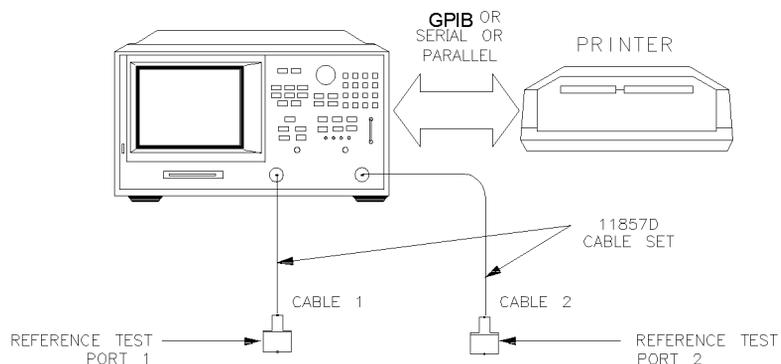

Figure 2-1. System Verification Test Setup
- 1 Connect the equipment as shown in Figure 2-1. Let the Agilent 8702D warm up for one hour.